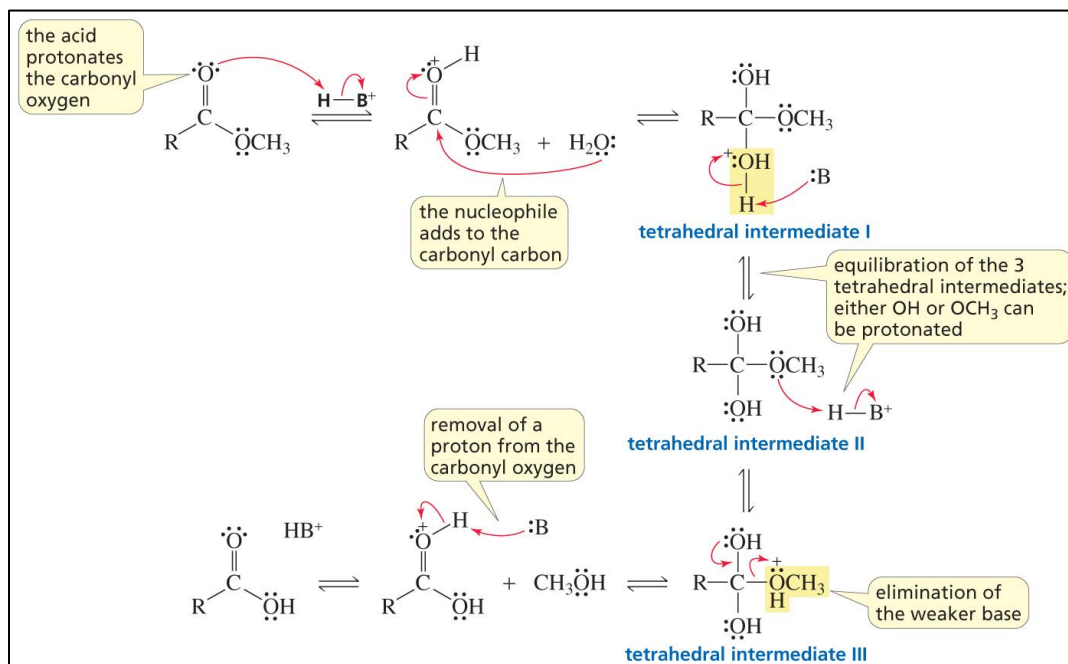

Figure 7.2 Mechanism for acid-catalyzed ester hydrolysis. (From Organic Chemistry by Bruice, 8th Ed.)
**Introduction:** Esters, like all carboxylic acid derivatives, can be hydrolyzed under acidic or basic conditions to form carboxylic acids. Hydrolysis of esters at neutral pH is extremely slow because water is a poor nucleophile, and the  $^-OR$  group of an ester is a poor leaving group. The addition of an acid catalyst can increase the rate of the reaction. In this virtual experiment, you will be hydrolyzing methyl propionate by refluxing the ester in aqueous solution, using sulfuric acid as the catalyst. A general mechanism for an acidic ester hydrolysis is shown below in figure 7.2.